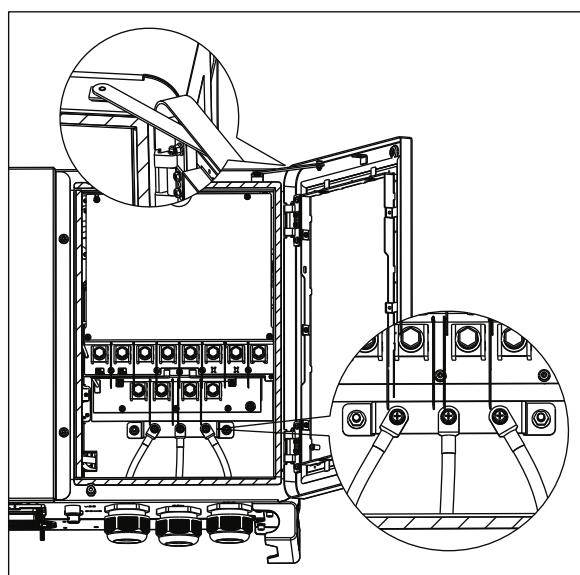

Fig 6.10
2. Connect a ground cable to the copper grounding bar. Fig 6.10 shows the position of the grounding bar inside the right cover plate;
1. Connect the ground cable to the battery power ground bar, as shown in Fig 6.10;
- 1> Connect the ground cable before connecting the battery cable; the ground point is shown in Fig 6.10.